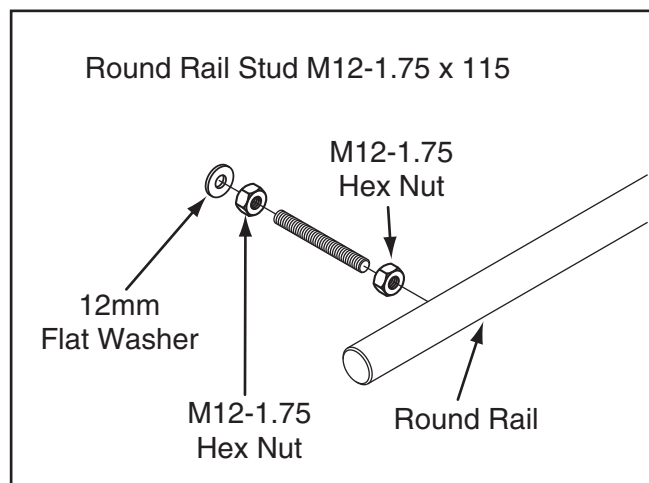

Figure 28. Installing studs with hardware into the round rail.
11. Make sure each of the four rail studs are pre-assembled with a 12mm flat washer and two M12-1.75 hex nuts, then thread them into the round rail, as shown in **Figure 28**.